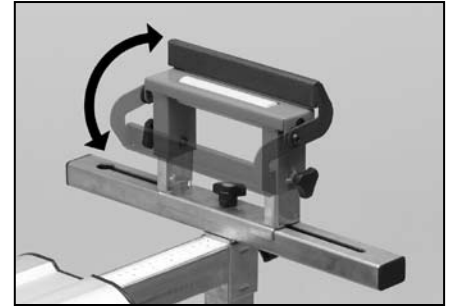

Figure 10
15. The roller supports have built-in flip stops that can be used for repetitive cuts or the same length. Simply flip the stops into the up position and adjust to the desired length. Figure 10.